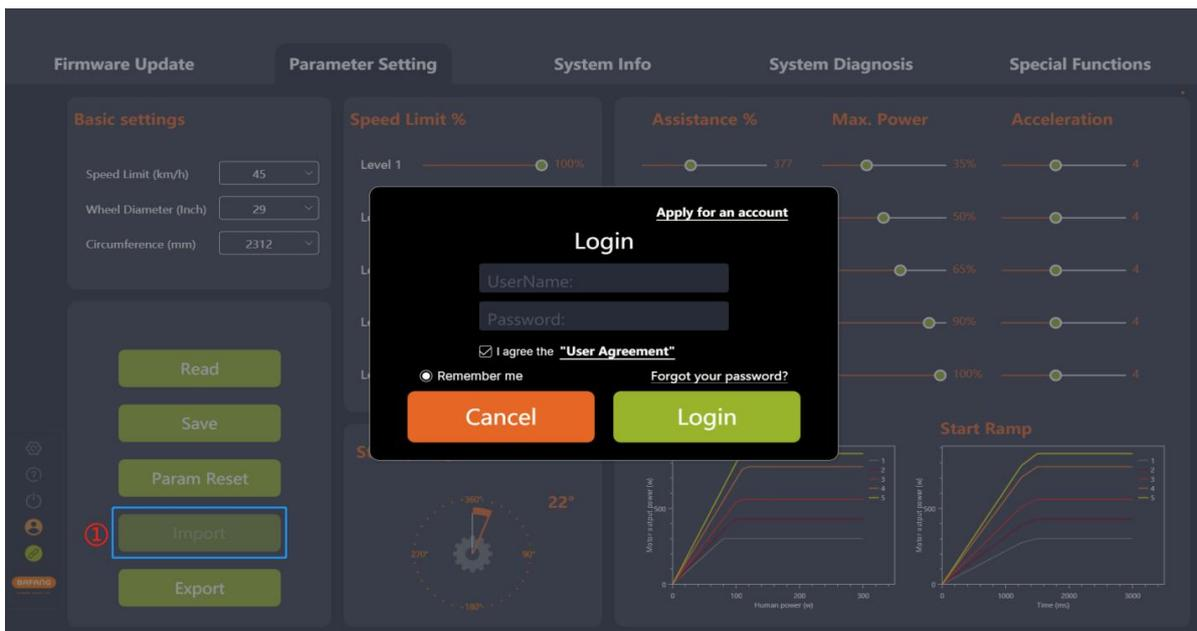

Fig. 5-17 Param reset
- (1) If you want to import the previously generated configuration file (XML format) to the controller, click "Import". If you are not logged in, the "Login" interface will pop up, prompting you to log in (Fig.5-17).
- (2) Validation rules: The hardware version of the imported controller and the hardware version of the controller in the parameter file shall be consistent. If not consistent, a prompt will be given and the importing will fail.
- (3) Select the local parameter configuration file.
- (4) Click "Open".